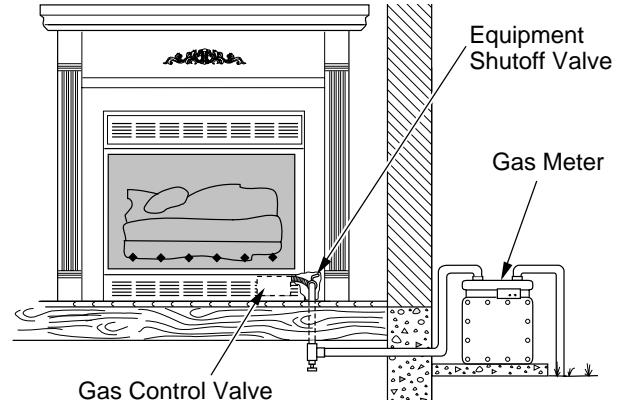

Figure 26 - Checking Gas Joints for Natural Gas
3. Check all joints from gas meter to equipment shutoff valve for natural gas or propane/LP supply to equipment shutoff valve for propane/LP (see Figures 26 or 27). Apply noncorrosive leak detection fluid to all joints. Bubbles forming show a leak.
4. Check all joints from equipment shutoff valve to gas control valve (see Figures 26 or 27). Apply noncorrosive leak detection fluid to all joints. Bubbles forming show a leak.